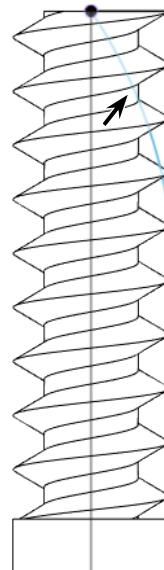

Fig. 16
Step 5. Sketch **arc between left endpoint of horizontal line and bottom endpoint of vertical line**, Fig. 16.